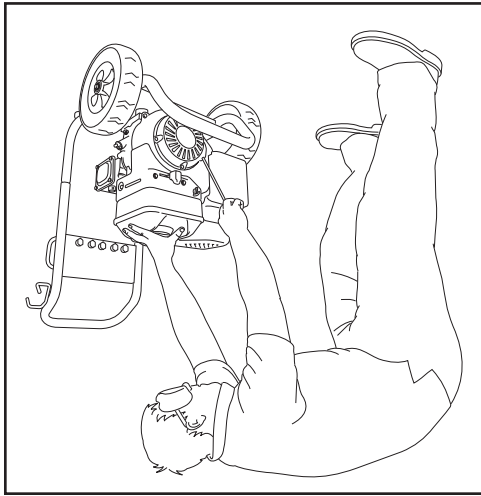

Figure 11
When starting engine, hold top of fuel tank with left hand. See Figure 12. With your right hand, pull cord slowly until resistance is felt and then pull rapidly to avoid kickback. After each starting attempt, where engine fails to run, always point gun in safe direction and push trigger lock (red button) (Figure 8, E) and pull trigger on spray gun to release high pressure. Move choke lever (F) to CHOKE position. See Figure 11. Move fuel valve (G) to ON position. See Figure 11. Move throttle lever (H) to FAST (🔥) position. See Figure 11. Point gun toward surface to be cleaned. Push trigger lock (red button) (Figure 8, E) and pull trigger to begin spraying.
2. Move fuel valve (Figure 11, G) to OFF position.
3. Move throttle lever (Figure 11, H) to SLOW (🐢) position, then STOP (🛑) position. Turn off water supply.